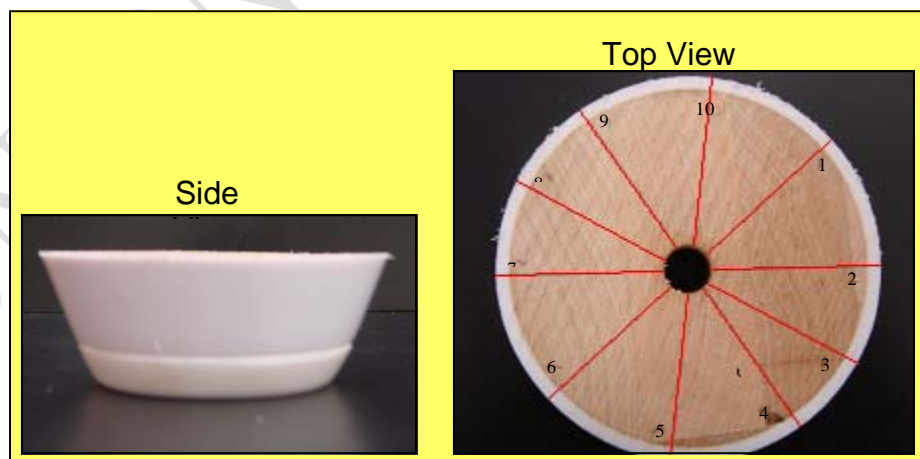

Figure 1 - Side and top view of base segment of the bowling pin. The top view shows the 10 divisions drawn on the segment for later analysis.
4. Set the base segment of the bowling pin on a work surface and draw 10 "pie slices" on the top of the segment and number each section 1-10 with the pencil and straight edge as seen in figure 1.